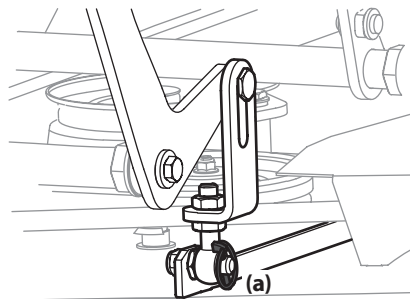

Figure 51
4. Remove the four lynch pins (a) that secure the deck to the deck lift assembly. See Figure 51.